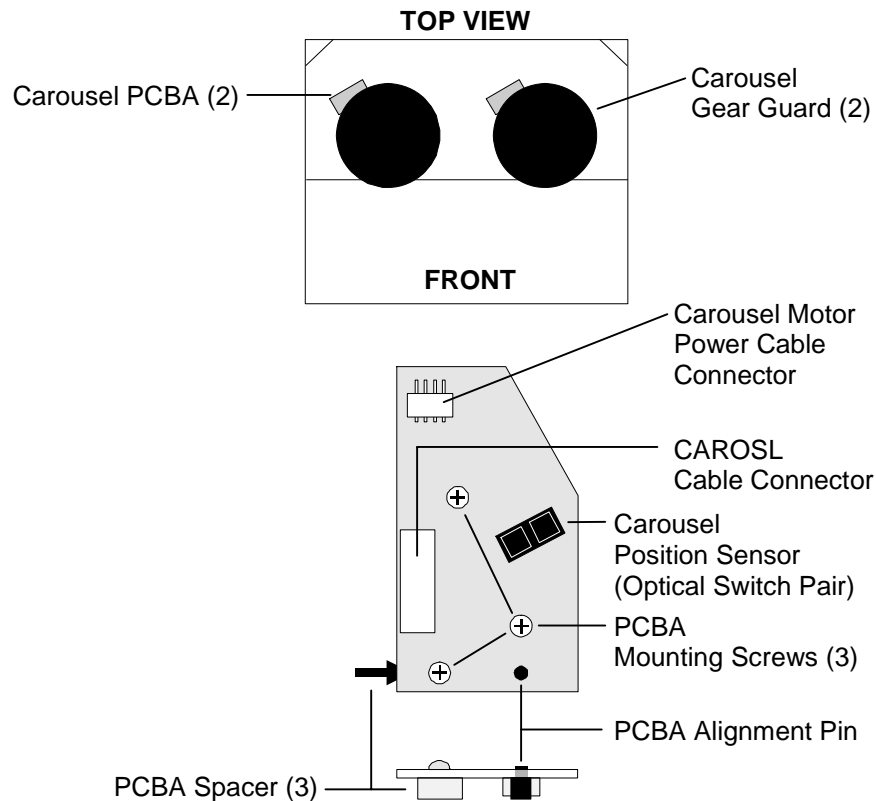
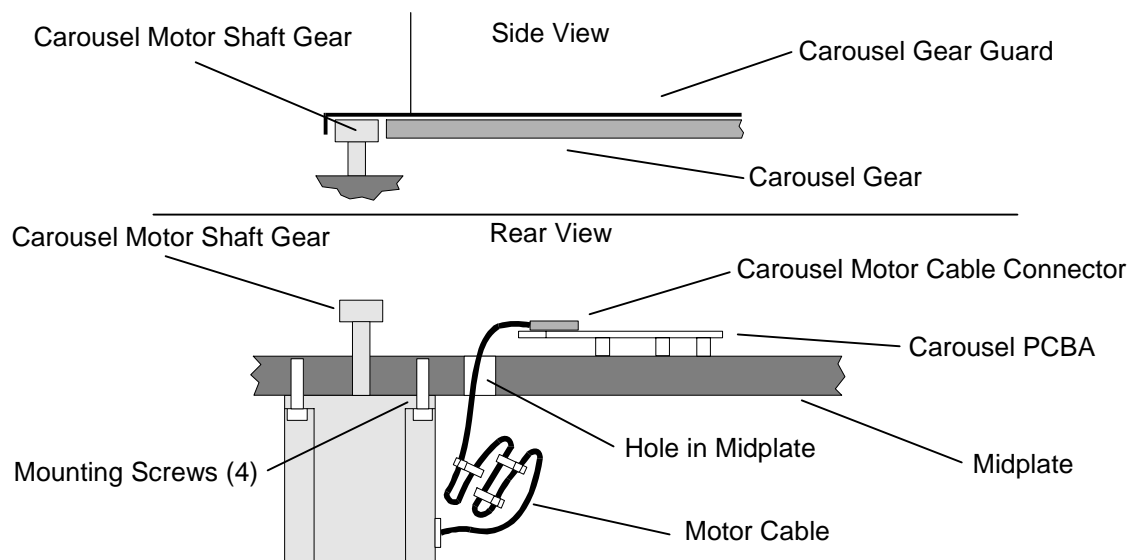

Figure 7-41 The Carousel PCBA (3 Views)
Figure 7-42 Carousel Motor
5. Reach in through the cabinet door or an opening in the side of the TLS' frame and disconnect the CAROSL Cable and the Carousel Motor Power Cable from the Carousel PCBA (Figure 7-41).
If necessary, rotate the carousel slightly by hand to reach each PCBA mounting screw (Figure 7-41).
6. Use a number 2 Phillips screwdriver to remove all three PCBA mounting screws and PCBA spacers (Figure 7-41).
In the next step, be careful not to damage the Carousel Position Sensor on the Carousel Gear Guard Figure 7-41), as you remove the Carousel PCBA.
7. Lift the Carousel PCBA slightly to clear the PCBA Alignment Pin, then gently slide the PCBA along the Carousel Gear Guard toward the front of the cabinet. When the Carousel Position Sensor is in front of the Carousel Gear Guard, slide the Carousel PCBA towards the cabinet door to remove it (Figure 7-41).
In the next steps, be careful not to damage the Carousel Position Sensor on the Carousel Gear Guard (Figure 7-41), as you install the Carousel PCBA.
3. Gently slide the PCBA along the Carousel Gear Guard toward the left, rear of the cabinet and fit the PCBA down over the PCBA Alignment Pin (Figure 7-41).
4. Align the Carousel PCBA spacers under the PCBA with the PCBA mounting screw holes (Figure 7-41).
5. Use a Phillips screwdriver to install all 3 PCBA mounting screws, then tighten the screws until they are snug (Figure 7-41). If necessary, rotate the carousel slightly by hand to reach each PCBA mounting screw.
6. Reach in through the cabinet door or an opening in the side of the TLS' frame and connect the CAROSL Cable and the Carousel Motor Power Cable to the Carousel PCBA (Figure 7-41). The connectors are keyed to fit only one way.
5. Reach in through the cabinet door or an opening in the side of the TLS' frame and disconnect the Carousel Motor Power Cable from the Carousel PCBA (Figure 7-41 and Figure 7-42).
- Use a 9/64-inch Allen wrench to remove all four Carousel Motor mounting screws (Figure 7-42).
- Align the mounting holes in the Carousel Motor with the corresponding mounting holes in the TLS' frame, so that the motor's cable faces the right side of the TLS when viewed from the rear. The Carousel assembly may need to be rotated slightly to allow the gears on the Carousel Motor's shaft to mesh with those of the Carousel (Figure 7-42).
- Guide the Carousel Motor cable through the hole in the TLS' Midplate and reconnect it to the Carousel PCBA (Figure 7-41 and Figure 7-42).